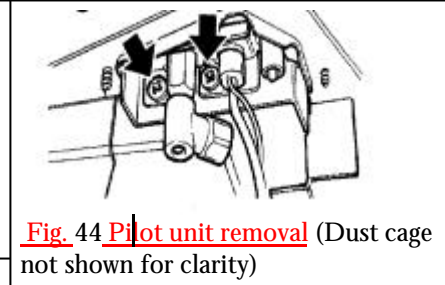

Fig. 44 Pilot unit removal (Dust cage not shown for clarity)
14.9 TO REMOVE THE PILOT UNIT (See figure 44)
14.9.5 Remove the first screw securing the dust cage to the pilot unit & burner. Carefully remove the dust cage and place aside. See figure 44.
14.9.6 Remove the second screw securing the pilot unit to the burner. Remove the pilot unit and place it aside. See figure 44.